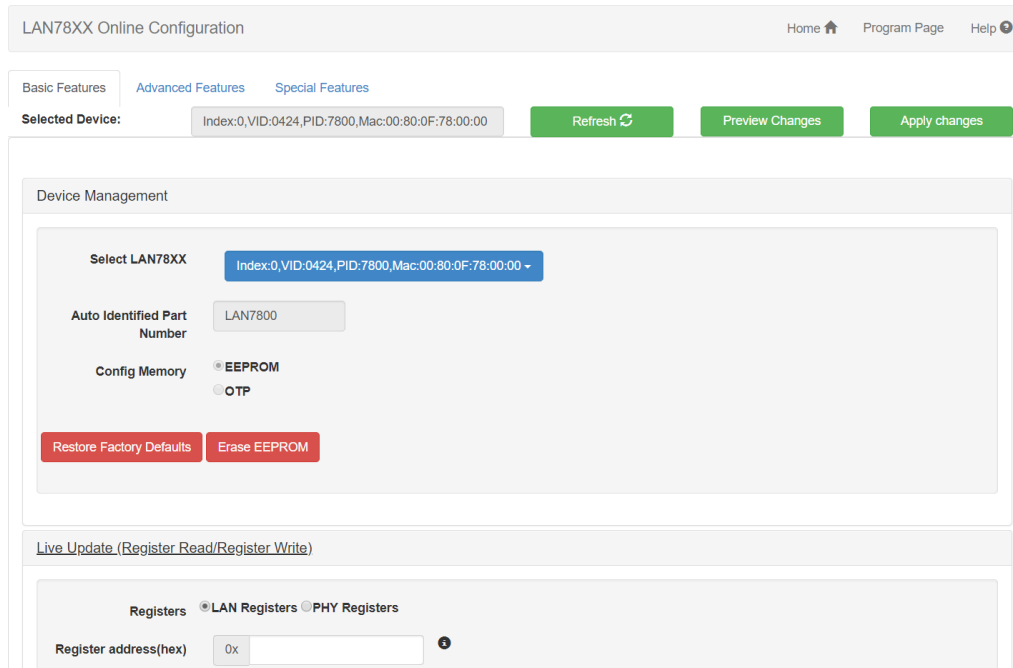

Figure 13: The Program Page after the device has been programmed.
9. Once programmed, the device should show as in figure 13.